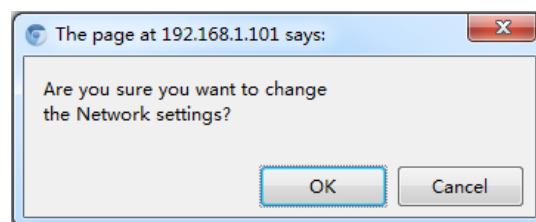

Figure 3.7 Network settings confirmation interface
5. According to the site conditions, it only needs to change <LAN IP Address> and <Remote Server IP Address> to change the settings of the IP address, <Remote Server IP Address> is the server IP address for installing air-conditioning system management software. Click <Change> button, as shown in Figure 3.7, the system prompts to confirm the information. Click <OK>, the air conditioning adapter IP address change is completed.